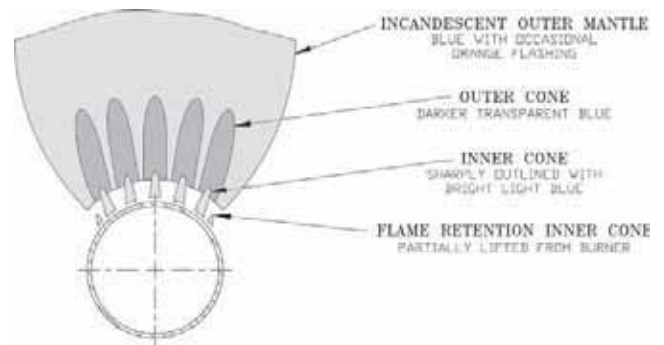

Figure 47A: 40mm Main Burner Flame
**K. Check main burner flame.** See Figures 47A and 47B. Flame should have clearly defined inner cone with no yellow tipping. Orange-yellow streaks should not be confused with true yellow tipping.